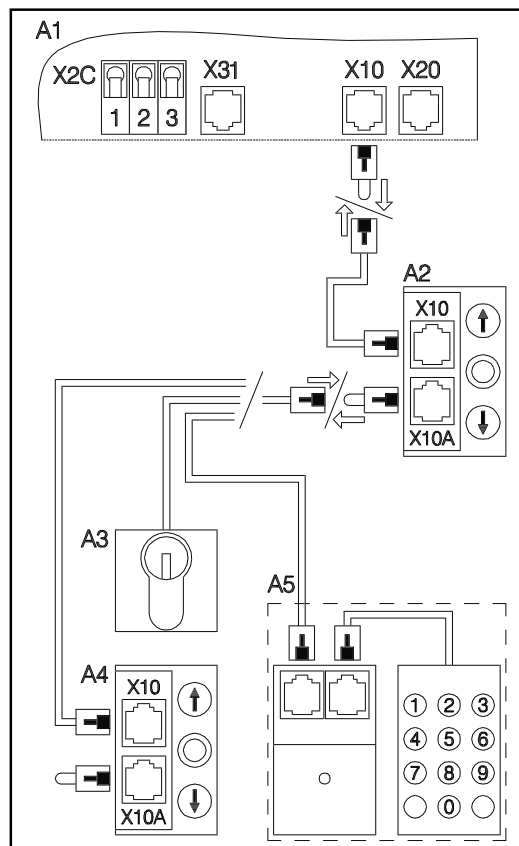

Fig. 10: Connection of control elements
- Connect the control element to the system socket X10A of the membrane keypad as shown in fig. 10